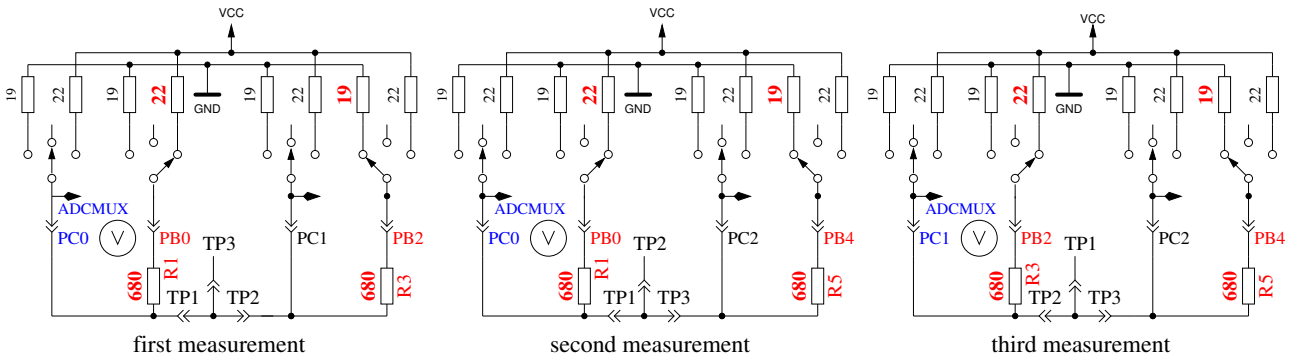

Figure 5.45: Comparison of 680Ω resistors
2. **Comparing of the 680Ω resistors.** In row 1 the cryptic text “+RL- 12 13 23” is shown. Meaning of this is as follows: The RL is the short form of Resistor Low meaning the 680Ω resistors. The 12 stand for: resistor at pin 1 is connected to VCC (+) and resistor at pin 2 is connected to GND (-). The result of this measurement is displayed in row 2 at the first place as difference to the theoretical value. In row 1 follows now a “13” which means, that the first connection of measurement 1 is still connected with 680Ω to VCC but that the resistor of pin 3 is connected to GND. The result is displayed in the middle place of row 2 as difference to the theoretical value. The last measurement of this test “23.” means that now the resistor at pin 2 is connected to VCC (+) and the resistor of pin 3 is connected to GND. The result of measurement is displayed at the last place of LCR row 2 as difference to the theoretical value. Please remember, that the resolution of the ADC is about 4.88mV! The measurement situation is also shown in figure 5.45. The theoretical value with respect to the internal resistance of the pins should be: $\frac{5001 \cdot (19+680)}{(19+680+680+22)} = 2493$.